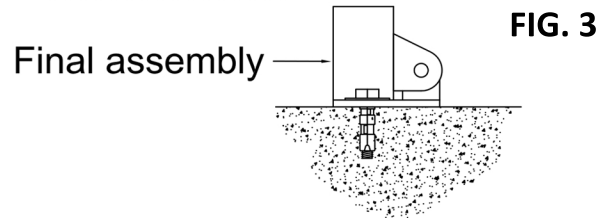

FIG. 3
**Step 7.** Place enclosure back on the pad, standing up, so as to line up with the hinge bolt anchors. Insert hinge bolts through washers (included in hardware kit) and then through the hinge plate into the anchors. Tighten bolts with wrench. (See FIG. 3)